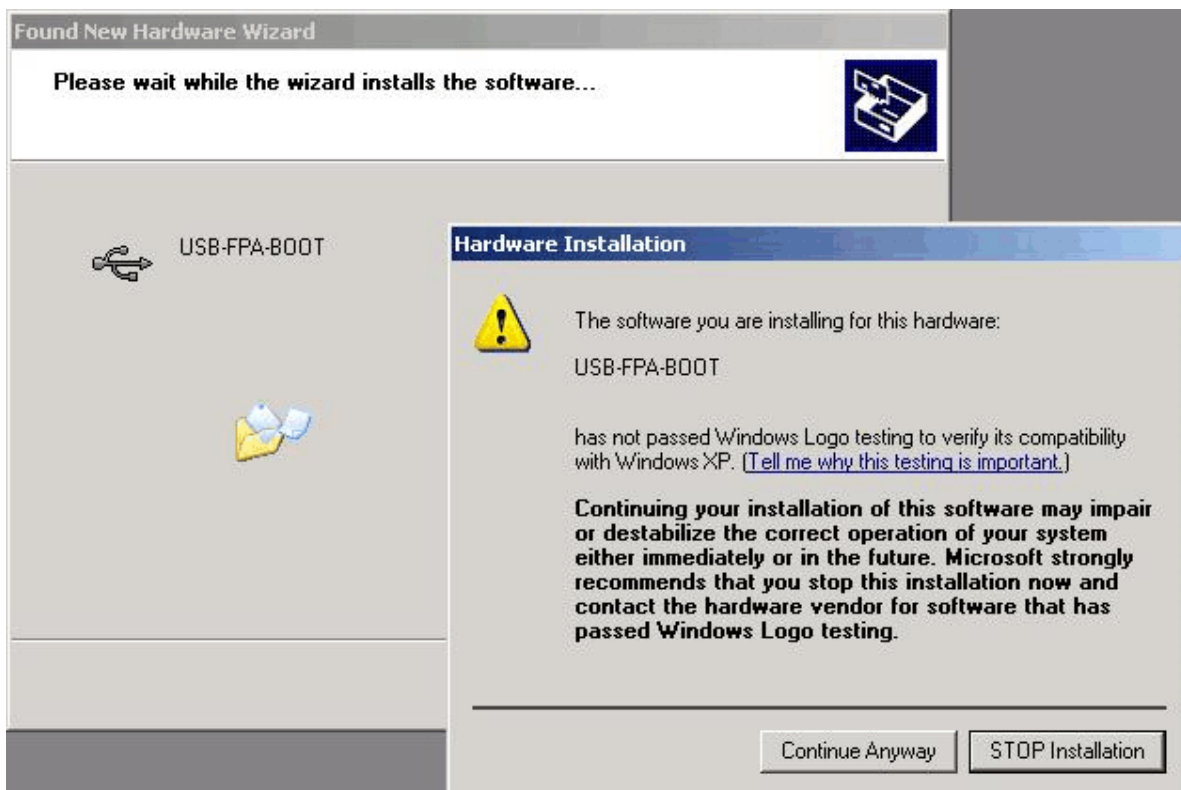

Figure 3.1.4
3. Software will search the driver for the USB-FPA-BOOT. It can take one minute to find it. When the driver is found then the following warning will be displayed (Figure 3.1-4)